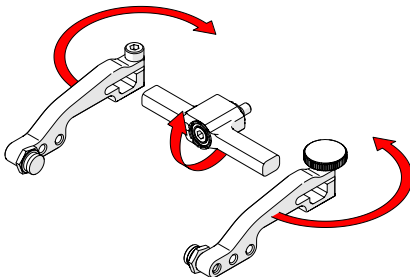

Fig. 165 - Flip yoke and reverse arms
3. Flip the yoke 180° and reverse the probe holder arms (Fig. 165).